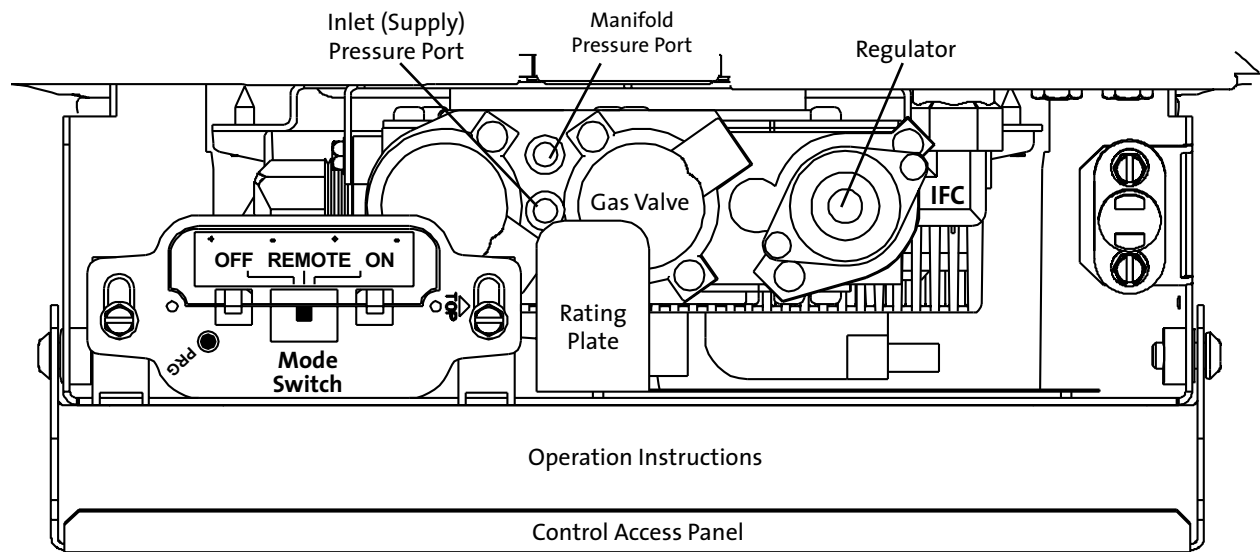

Figure 15.1. GF 16o DV IPI Controls Compartment.
1. Set the Mode Switch to **OFF**. See fig. 15.1.
1. Press the Controls Access Door to release its magnetic catch and swing the panel down. Switch the Mode to **REMOTE**. See fig. 15.1.